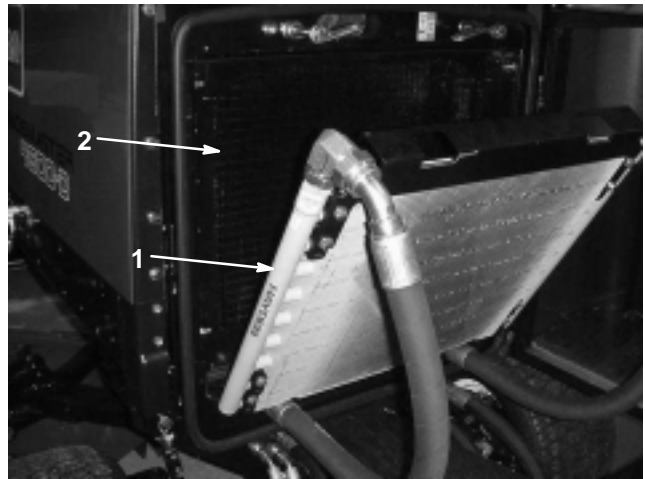

Figure 38
3. Pivot the oil cooler rearward. Clean both sides of the oil cooler and radiator area (Fig. 38) thoroughly with compressed air.